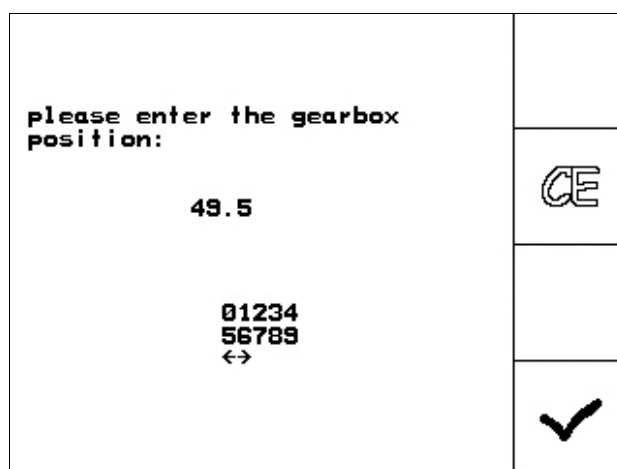

Fig. 65
-  Confirm the setting and enter the figure that is indicated, on the scale, by the gearbox setting lever in the now open input block (Fig. 65).